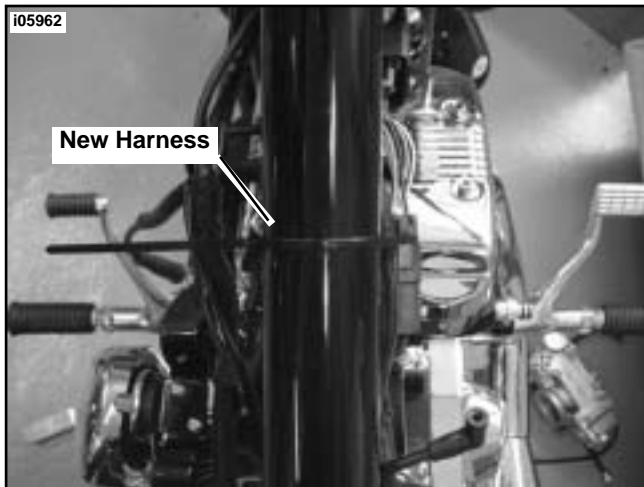

Figure 4. Connect New Harness to Existing Harness
9. See Figure 4. Continue routing new harness toward front and left side of bike and perform the following: